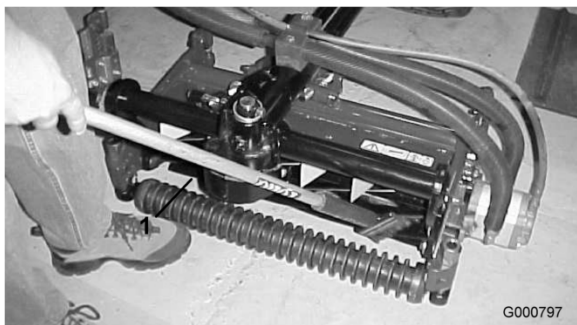

Figure 71
8. Apply lapping compound with a long handle brush (Toro Part No. 29-9100). Never use a short handled brush (Figure 71).